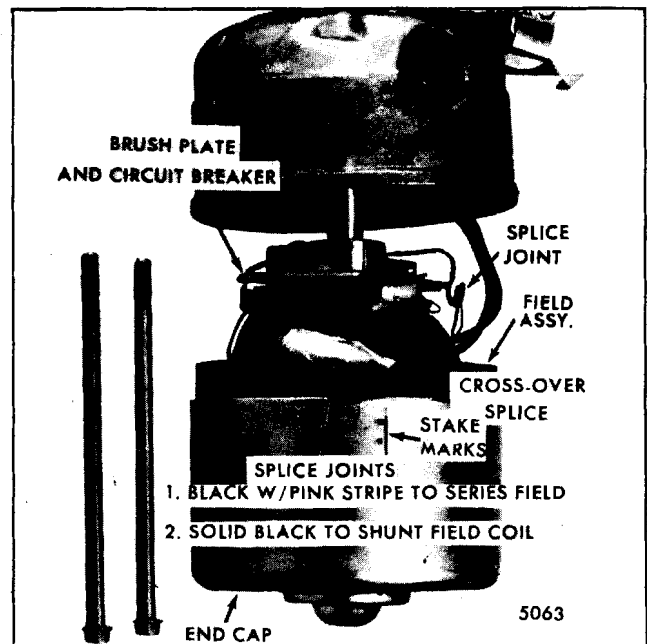

Fig. 2-36-Field and End Cap Assembly
- b. Splice joint - field coil cross-over splice - (Fig. 2-36).
- Feed exposed excess length of motor leads through the casting grommet and carefully back the case and field assembly plus the armature away from the casting (Fig. 2-36).